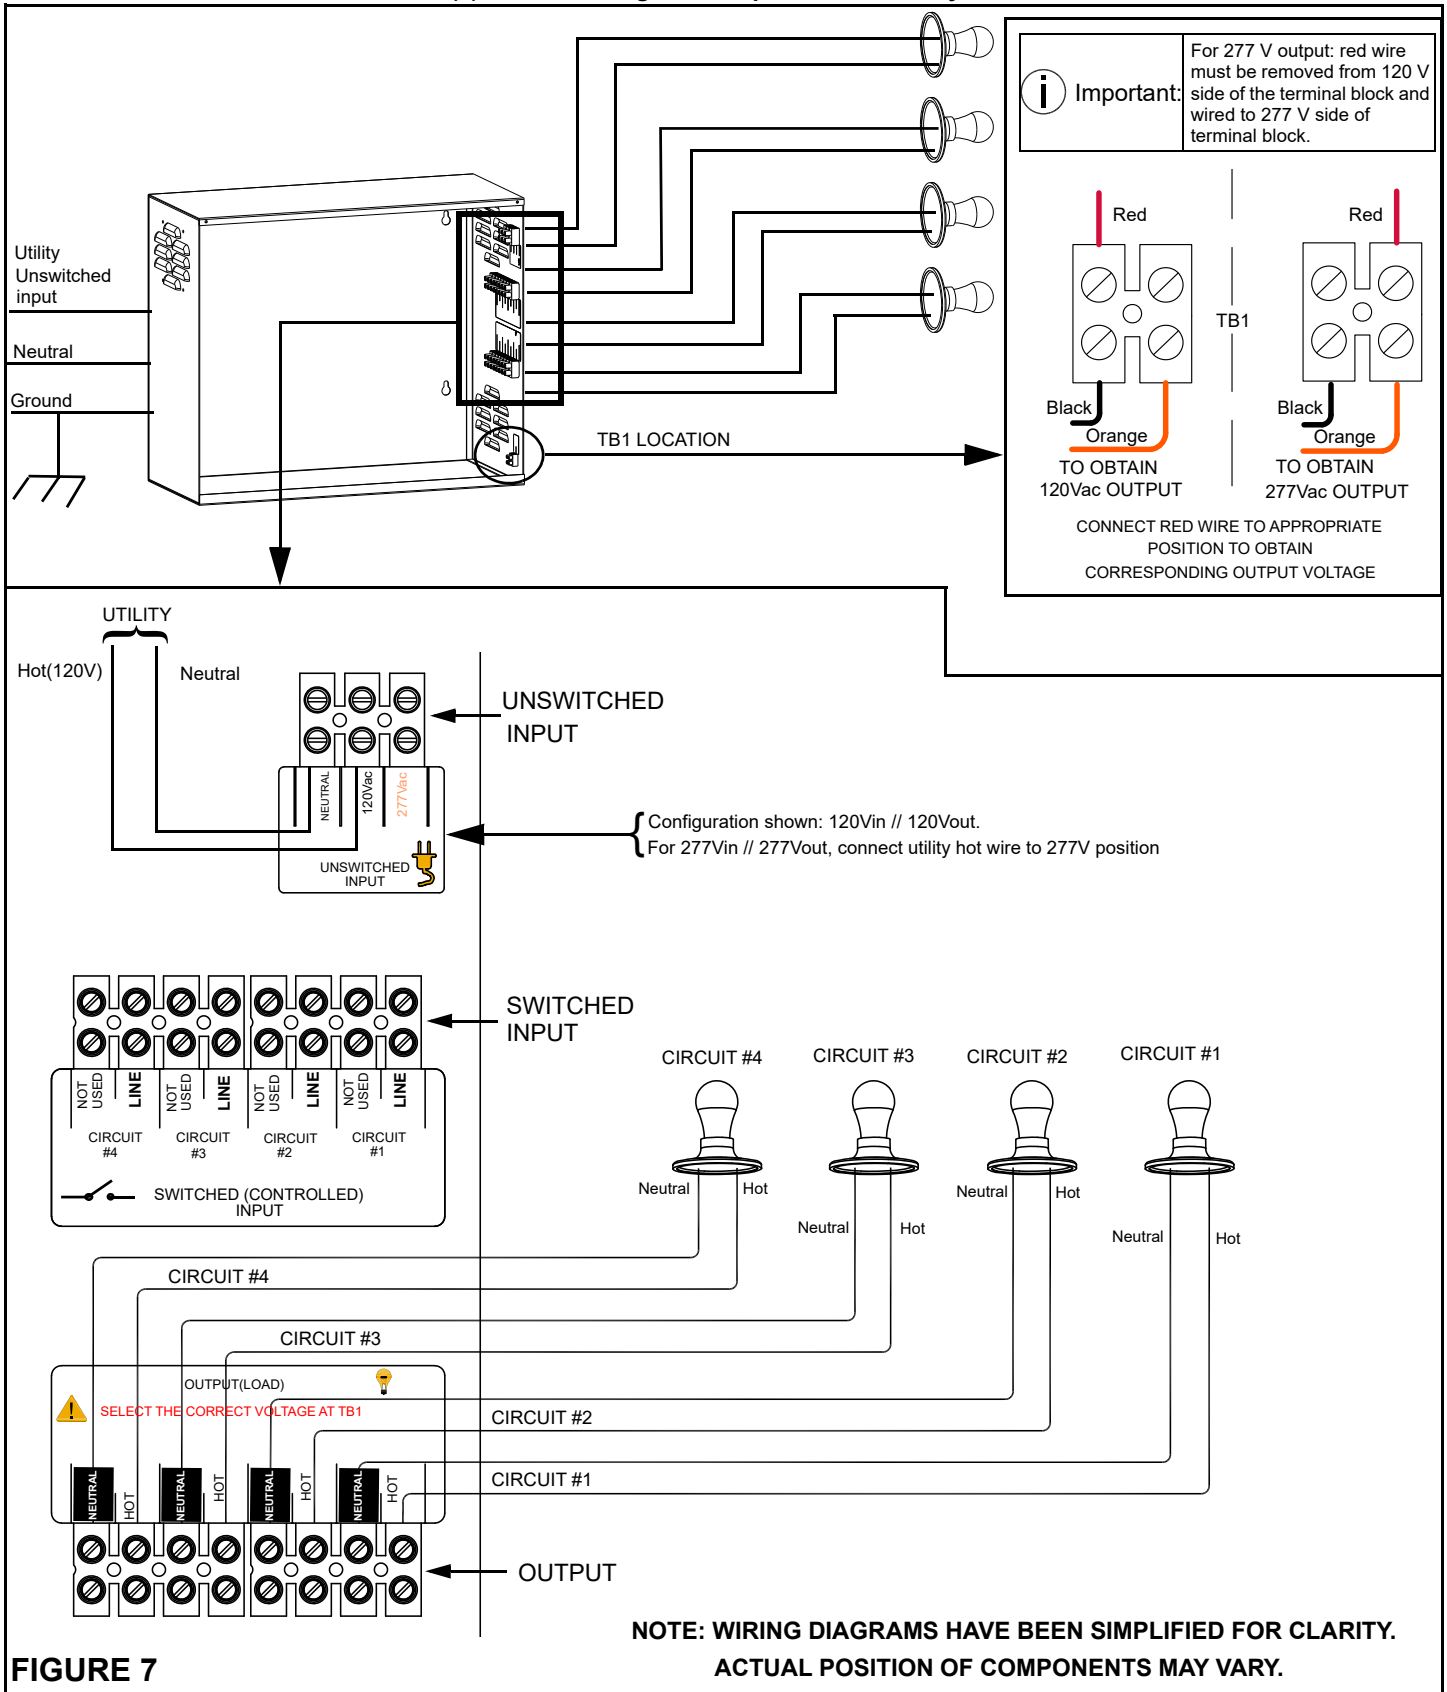

FIGURE 7
- b. **Normally-Off Operation** (Refer to Figure 7 for wiring details) - Fixtures illuminated only upon loss of utility AC power.